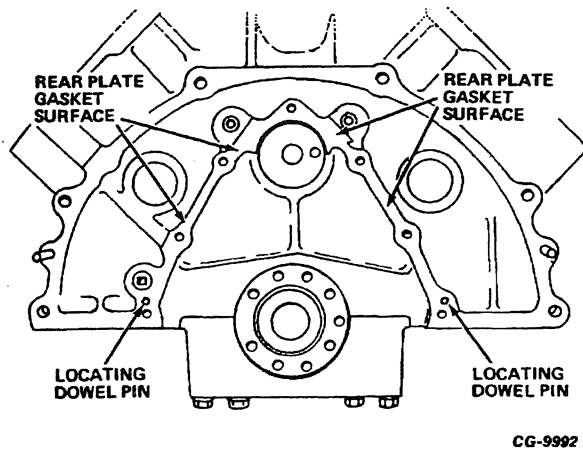

Figure 6.20. Locating Dowel Pins (Rear
**NOTE:** If dowel pins (**Figure 6.20**) are damaged or missing, replace prior to verifying rear plate seal bore concentricity. If rear plate's dowel holes are damaged, replace with new.